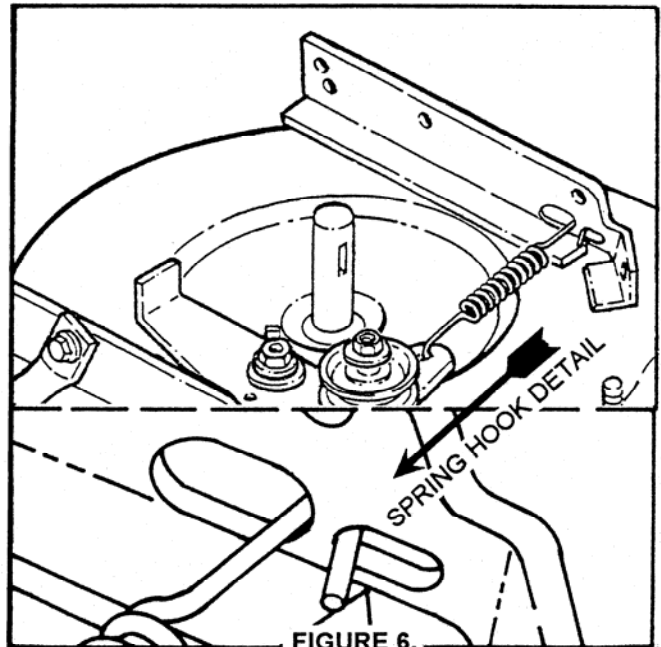

FIGURE 6.
STEP 5: Install the spring removed in step 2 in its new location shown in Figure 6.